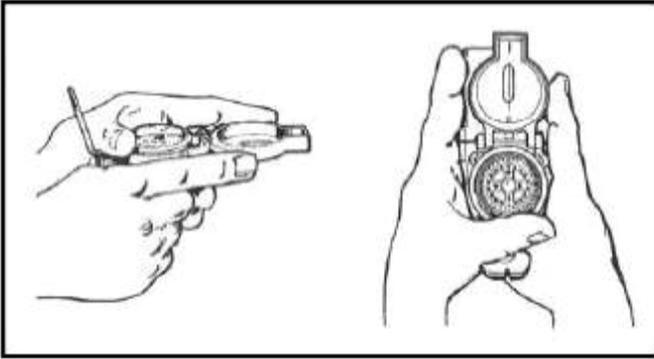

Figure 071-329-1003-4. Centerhold technique
- Determine an azimuth with the center-hold method (figure 071-329-1003-4).